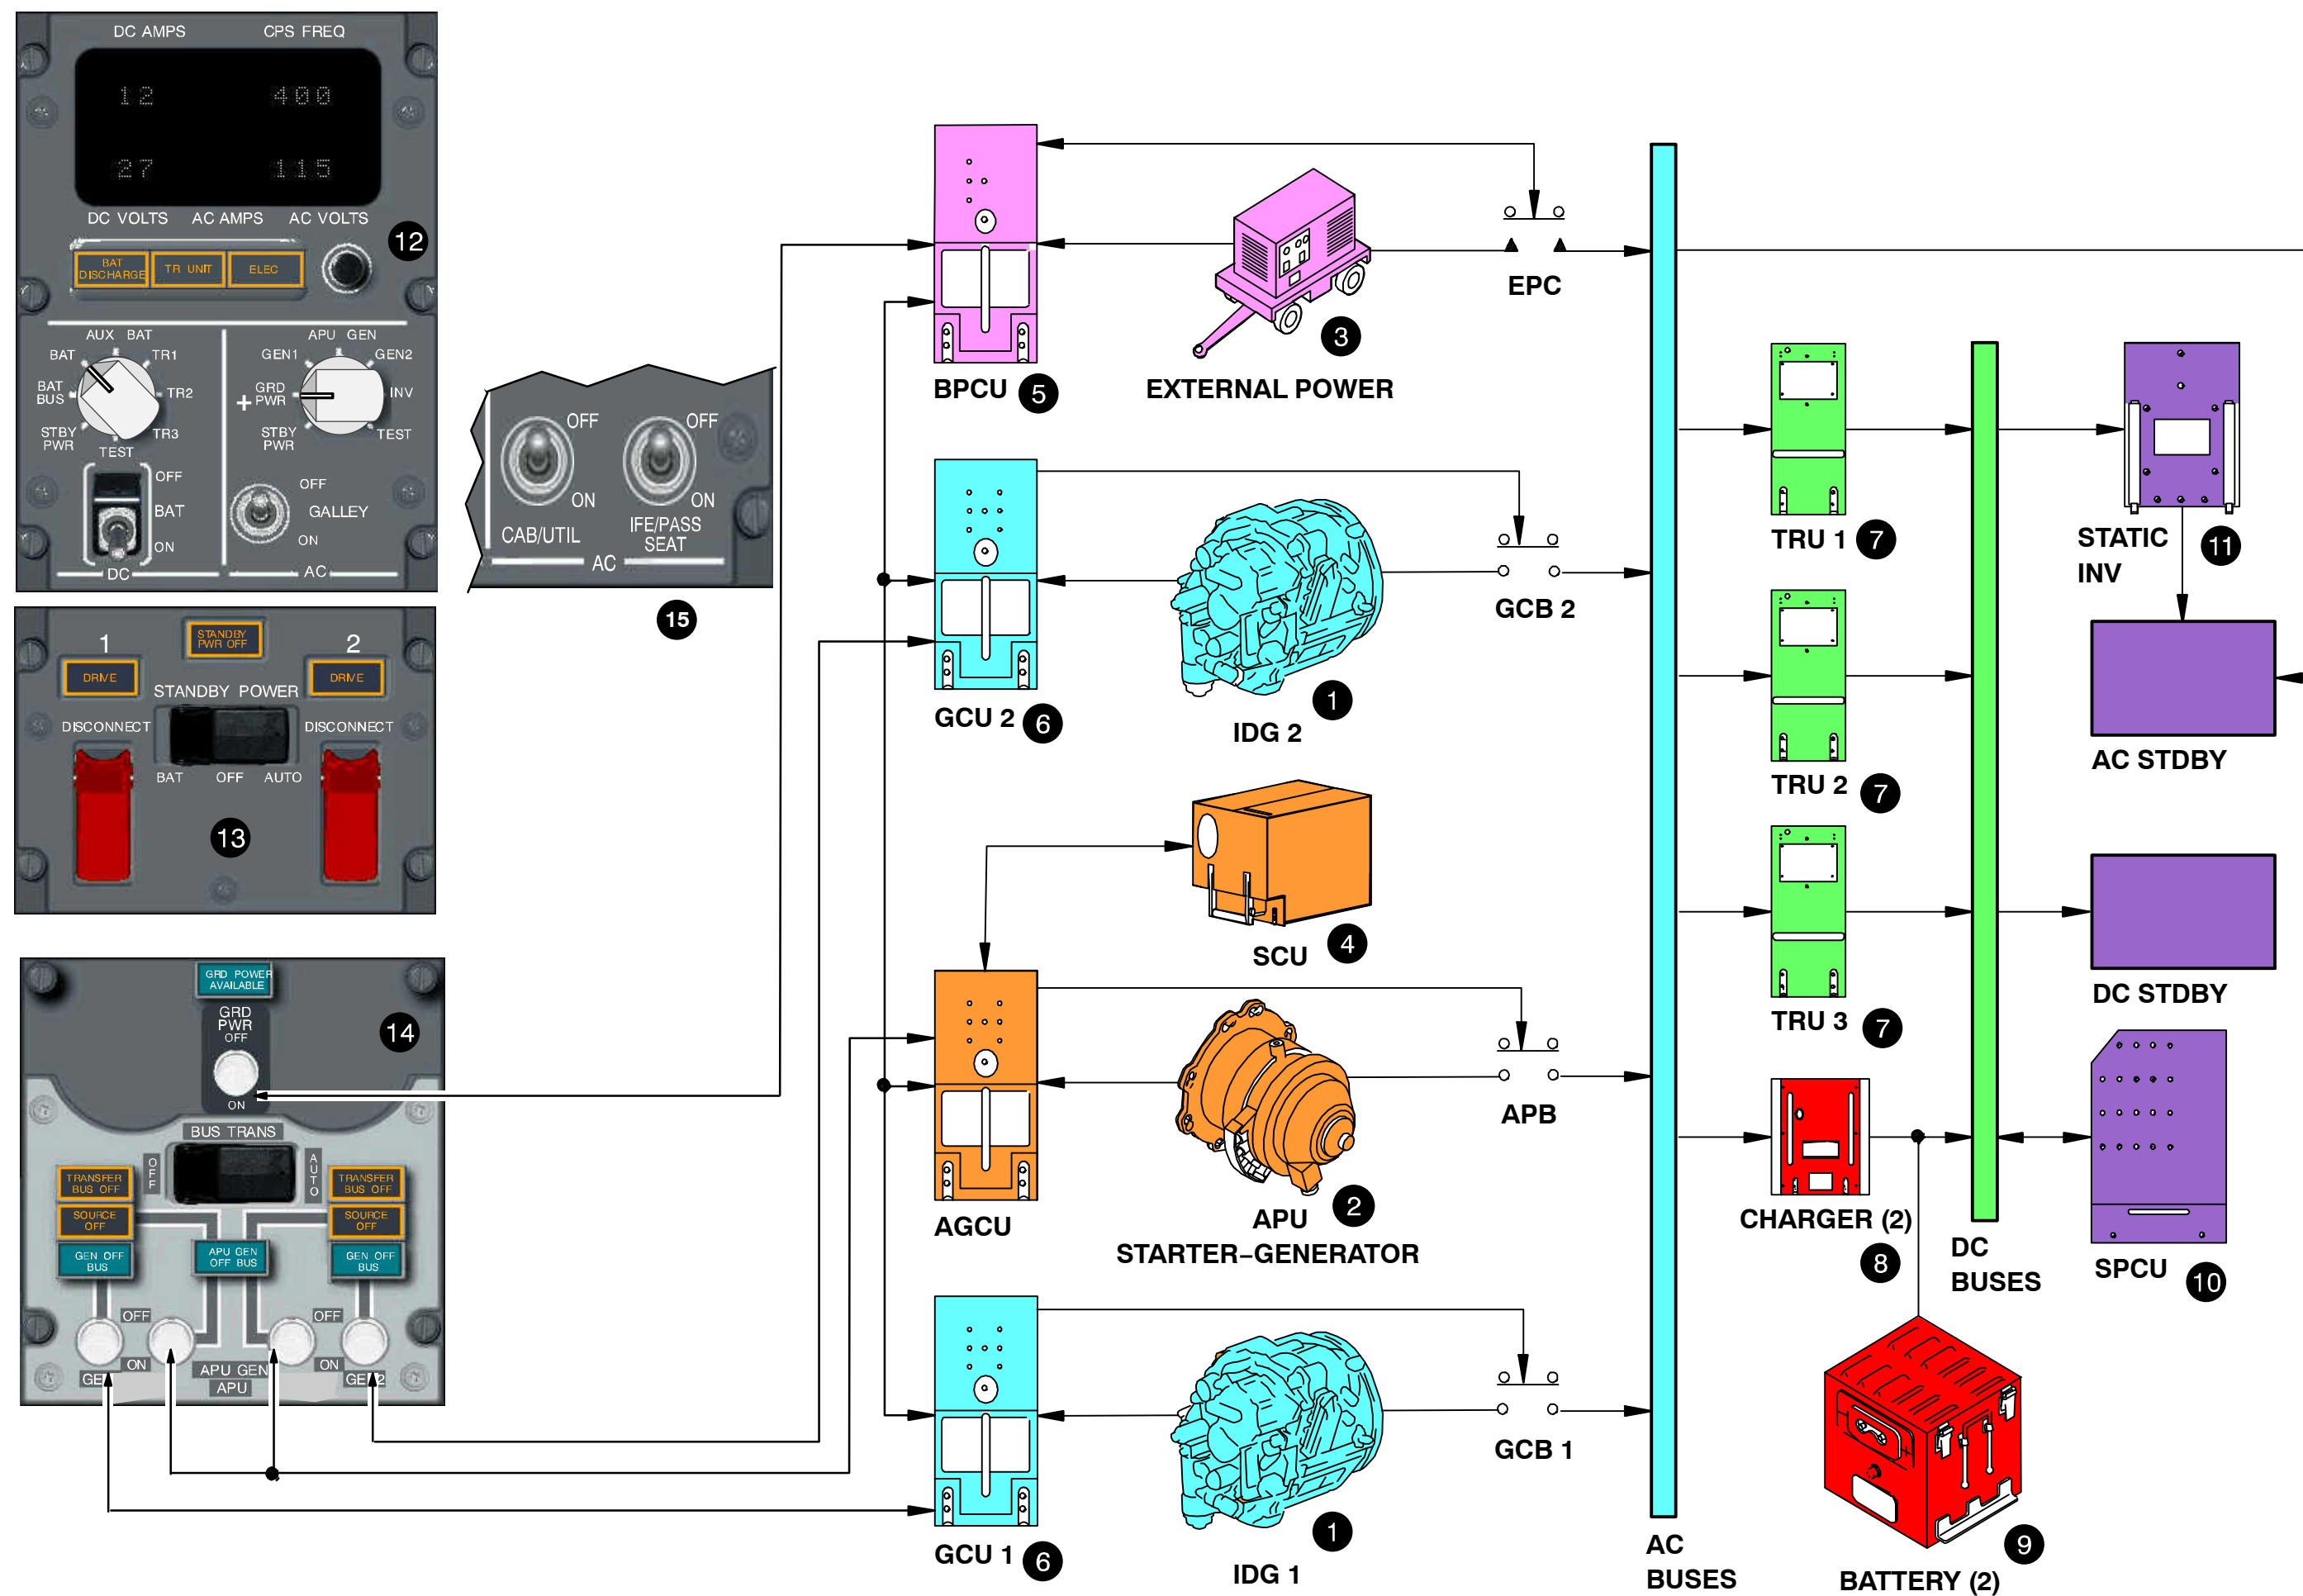

Figure 22 Electrical Power General (Cont.)
*Reference to Figure 22 Electrical Power General (Cont.)***8 Battery Charger (Main and Auxilliary)**